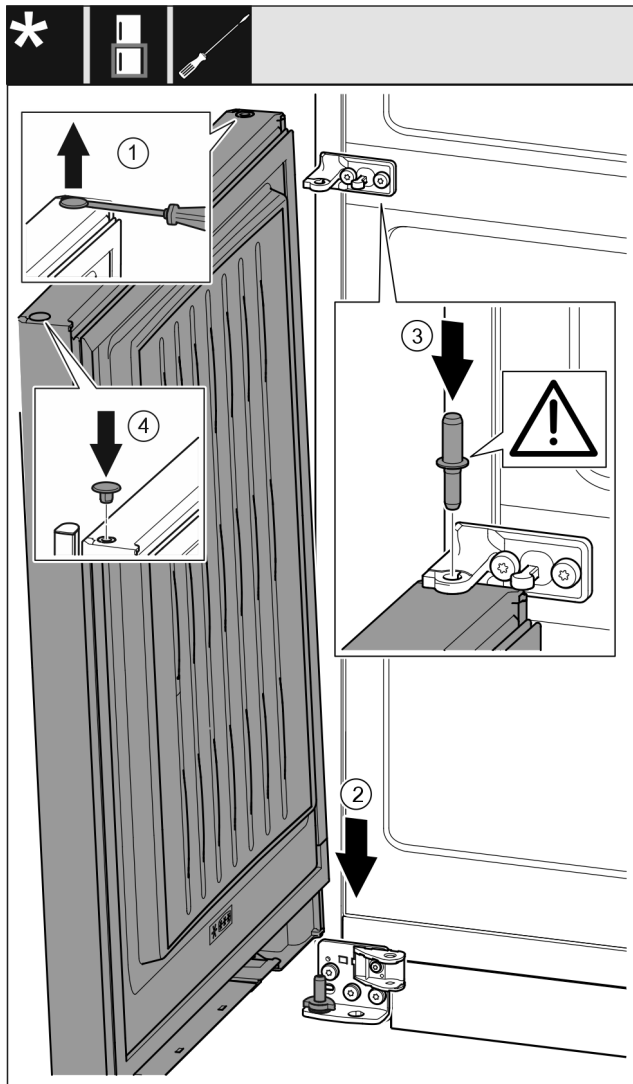

Fig. 35
- ▶ Use a slotted screwdriver to lift the plug Fig. 35 (1) carefully and pull it out.
- ▶ Lower the door Fig. 35 (2) onto the bottom bearing bolt.
- ▶ Insert the centre bearing bolt Fig. 35 (3) through the centre bearing block in the lower door. Ensure that the latching cam is pointing towards the rear.
- ▶ Re-insert the plug Fig. 35 (4) on the other door side.